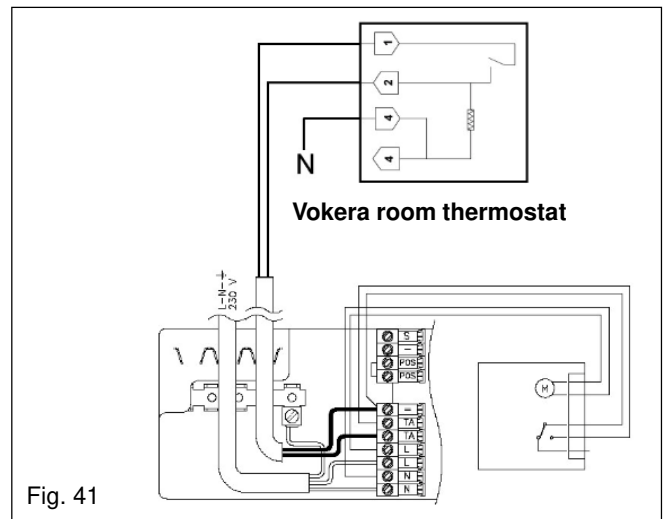

Fig. 41
8.5 VOKERA ROOM THERMOSTAT (see fig. 41)
Connect the Vokera room thermostat to the appliance as detailed in fig. 41.